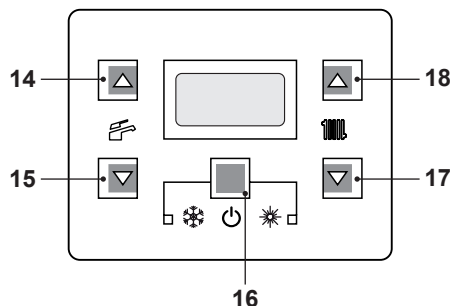

Fig. 7.10
- Press the 16 key for 2 seconds until both  symbols appear on the display Fig. 7.10.
- Switch off the boiler by pressing the 16 (Fig. 7.10) key for 2 seconds until the symbol appears on the LCD display (Fig. 7.9).
- Press the 16 key for 2 seconds until both and symbols appear on the display Fig. 7.10.
Press the reset key on the boiler control panel 16 (Fig. 7.10) to reset its functioning.